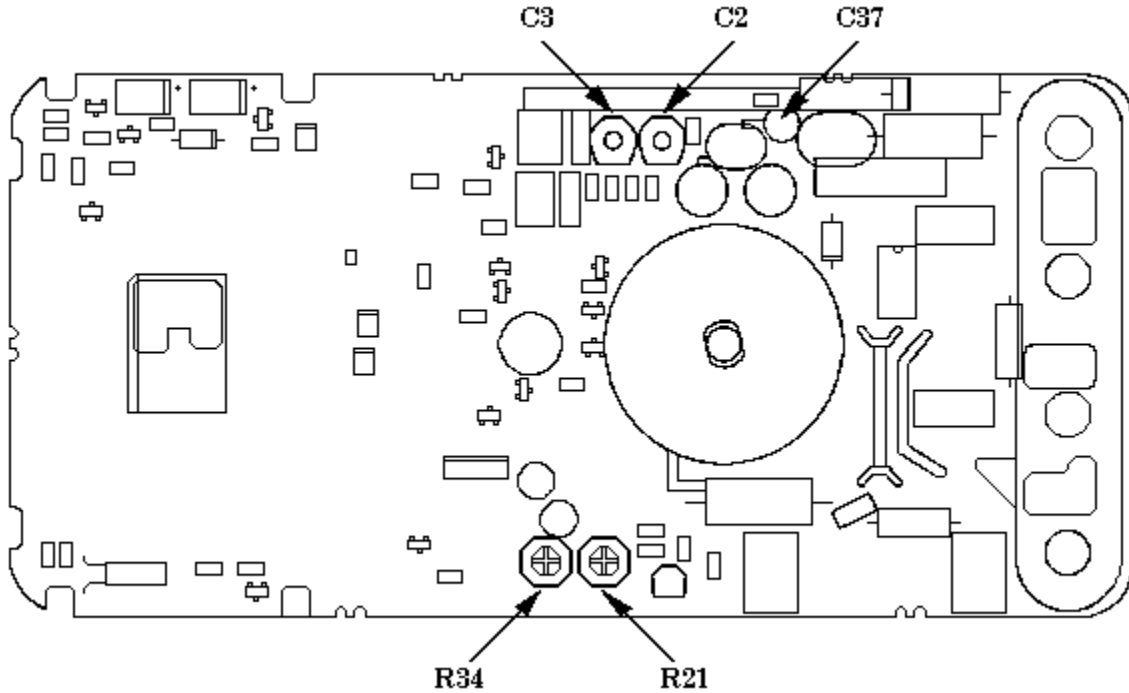

Figure 1. Adjustment locations.
- (1) Set function switch to  $V_{DC}$ .
- (2) Set calibrator for an output of 3.900 V dc.
- (3) Adjust R21 (fig. 1) until TI indicates 3.900 V dc (R).
- (4) Repeat **a** (1) through (4) above.
(1) Set calibrator for an output of 3.513 V at a frequency of 50 Hz.
(2) Adjust R34 (fig. 1) until TI indicates 3.500 V ac (R).
(3) Change calibrator output amplitude to 100.0 V at a frequency of 20 k Hz.
(4) Adjust C37 (fig. 1) until TI indicates 100.0 V ac (R).
(5) Change calibrator output amplitude to 3.500 V at a frequency of 10 kHz.
- (6) Adjust C2 (fig. 1) until TI indicates 3.500 V ac (R).
- (7) Change calibrator output amplitude to 35.00 V at a frequency of 10 kHz.
- (8) Adjust C3 (fig. 1) until TI indicates 35.00 V ac (R).